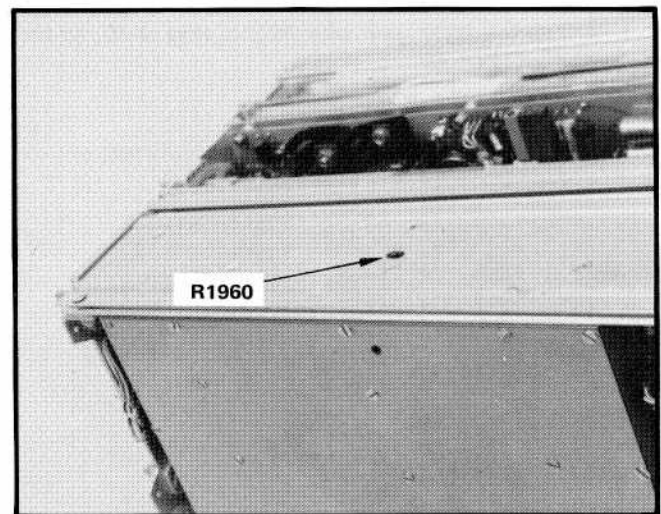

Fig. 4-9. Location of R1960, Sweep Driver adjustment for the 16-19 MHz oscillator.
h. Adjust the 16-19 MHz sweep gain with R1960, (Fig. 4-9) for 1 marker/2 divisions.